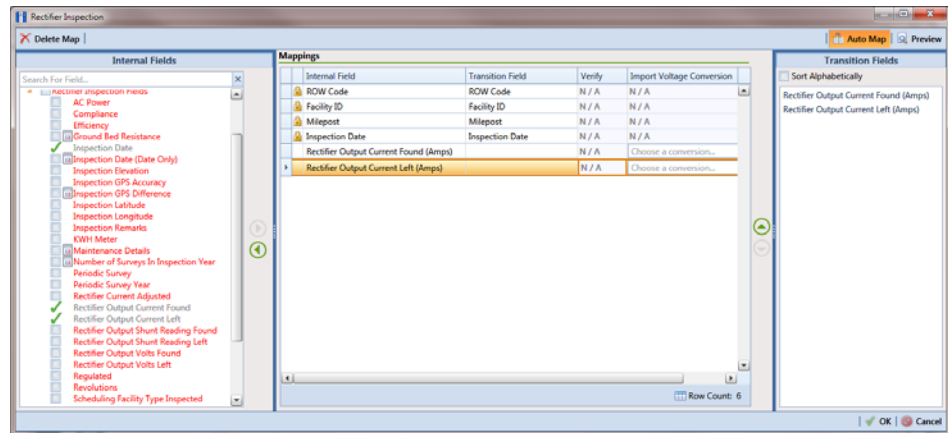

Figure 10-9. Field Mappings
- a** Click **Edit** in the *Maps* group box to open a field mapping window (Figure 10-9, page 464).
NOTE: Fields in the *Mappings* panel with a lock icon are required fields for mapping, such as *ROW Code*, *Milepost*, *Facility ID*, and *Inspection Date* shown in the following example (Figure 10-9, page 464).
- b** Choose PCS Axis fields for mapping. Click the toggle arrow for a field category in the *Internal Fields* panel to view a list of available fields. For example, *Rectifier Inspection Fields* is selected in the following figure (Figure 10-9, page 464).